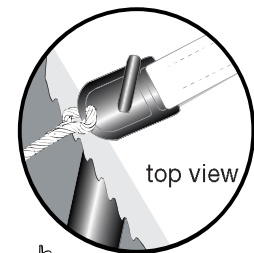
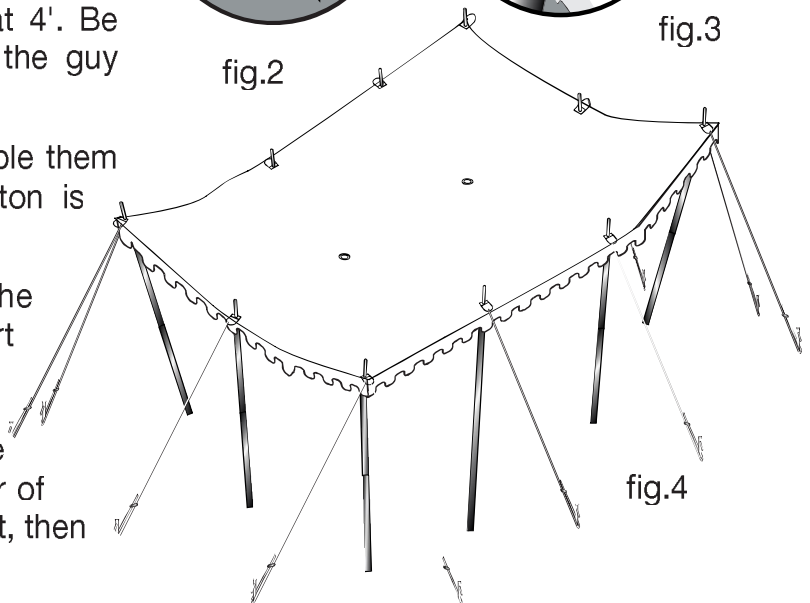

fig.3
fig.4
5. Install the side poles from the underside of the canopy. Insert pole pins up through both the grommet and D-ring. See fig.3. Stand the poles up at a 60° angle with their base toward the center of the tent. Set the corner poles first, then the side poles. See fig.4.